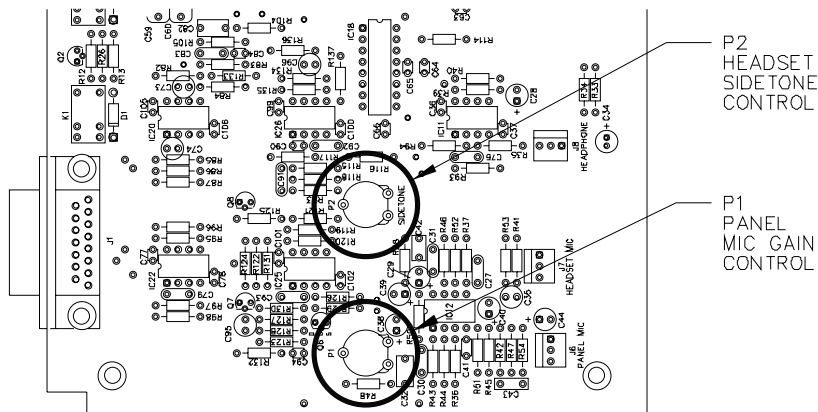

FIGURE S1-5: Sidetone and Panel Mic Gain Adjustment Controls
2. Find the sidetone control (marked "P2 SIDETONE") on the main PCB (see Figure S1-5 on page S1-12).
2. Use a small screwdriver to adjust the control marked “P1” on the Main PCB (see Figure S1-5 on page S1-12).